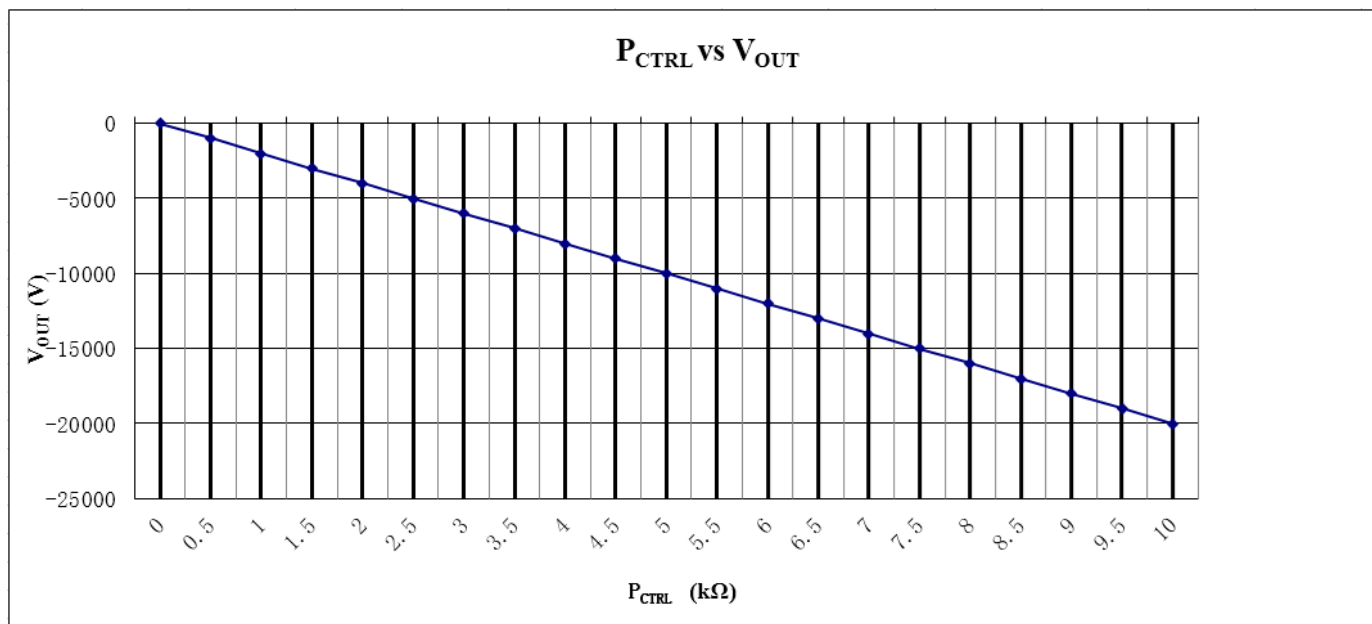

Figure 4. P_{CTRL} vs. V_{OUT}
5. HV adjustment: 10-turn potentiometer for adjusting output voltage. Rotate it clockwise to increase the output voltage, and the potentiometer resistance = the corresponding scale $\times$ 10 Ω . For example, as Figure 4 shows, when the scale is 10, and the frame above the scale shows 1 (1k Ω), then the resistance = $10 \times 10\Omega + 1k\Omega = 1.1k\Omega$, and the like.